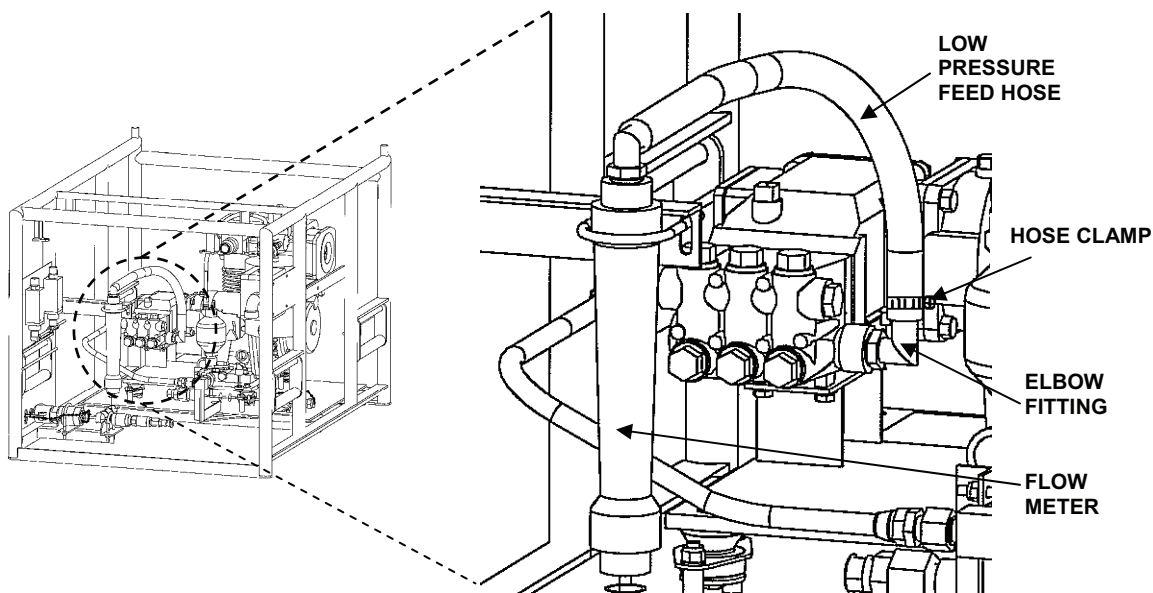

Figure 8. High-Pressure Pump Draining.
3. Drain all water from the Reverse Osmosis (RO) Module.
- a. Remove the hose clamp. See Figure 8.